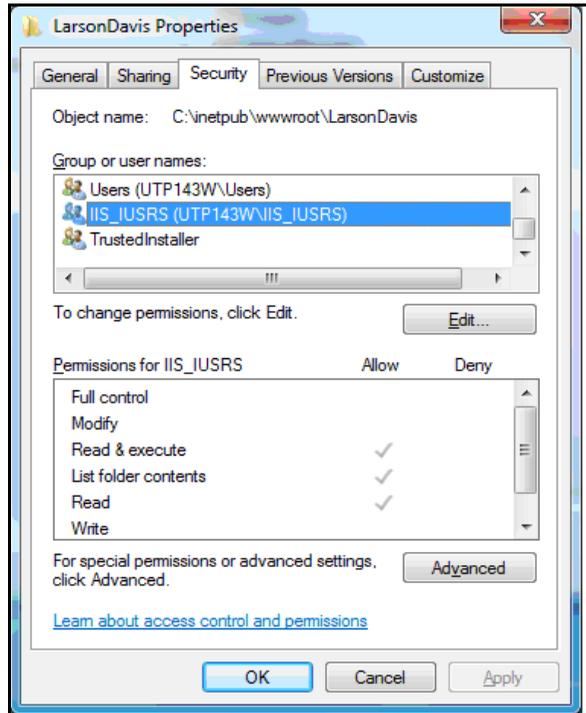

FIGURE 2-49 Larson Davis Properties - Web User Access Rights
Step 5 Verify that the proxy user or supplied user has read access permissions, as shown in FIGURE 2-49. If not, grant read access to the proxy user or supplied user.